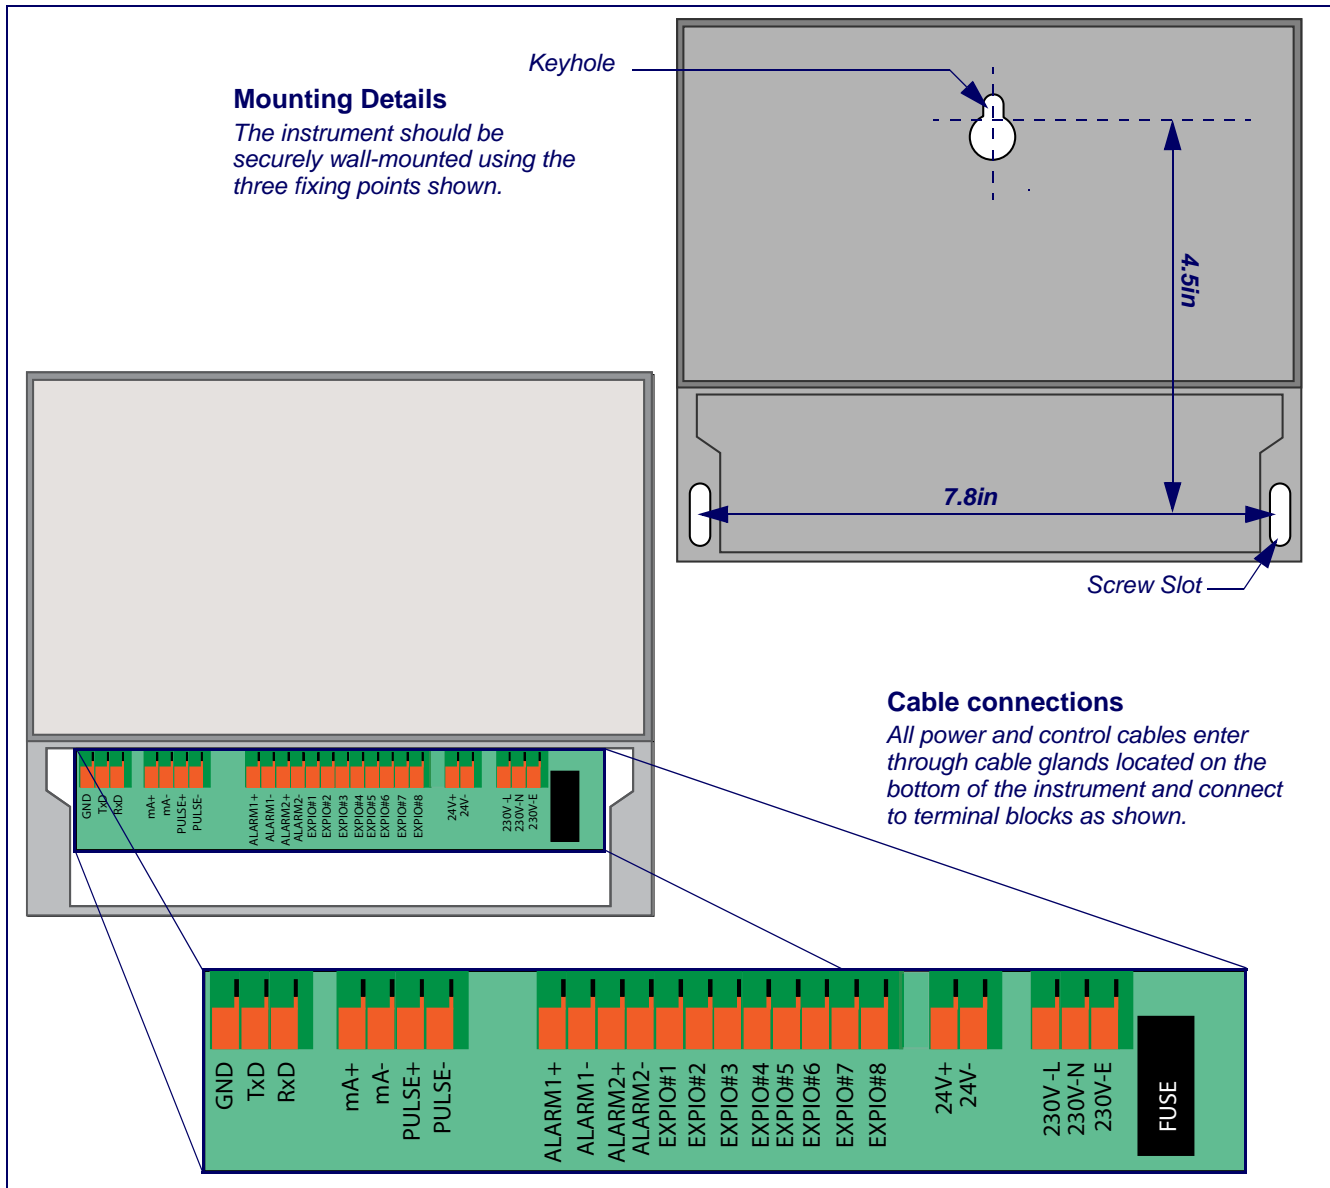

Figure 2.1 U3000/U4000 Mounting and connection details
3. Cut the wires to length, strip back the insulation by approximately 0.4 in and connect them to their appropriate terminals, as described above and identified in Figure 2.1.
2. Cut the wires to length, strip back the insulation by approximately 0.4 in, and connect them to the correct power supply terminals identified in Figure 2.1.